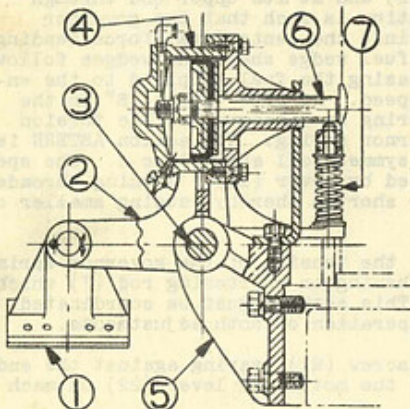

FIG. R-7
The flywheel brake assembly is shown in Fig. R-7. Brake shoe (1) which is faced with brake lining, is carried by the horizontal arm of crank shaped lever (2).